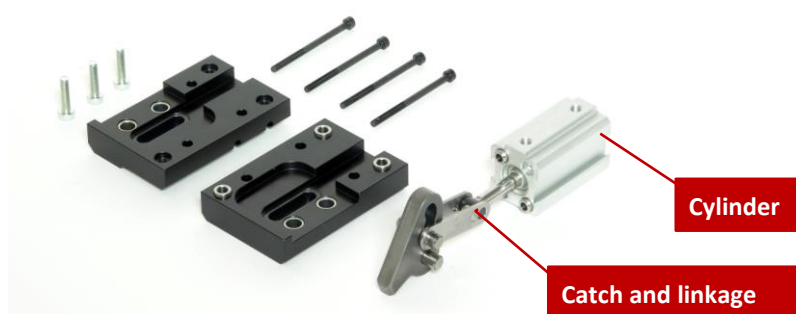

Fig. 22 Illustration of ZA-Catch with cylinder
1. Insert cylinder (Fig. 22) with catch (Fig. 22) into the housing. Make sure that the catch is sufficiently lubricated.
3. Secure cylinder and housing cover with screws (Fig. 22).